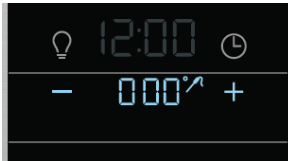

Figure 18: Probe inserted and ready to set temperature
- When the probe is inserted, an acceptance tone will sound, the probe icon appears in the display (See Figure 18). Close the oven door.